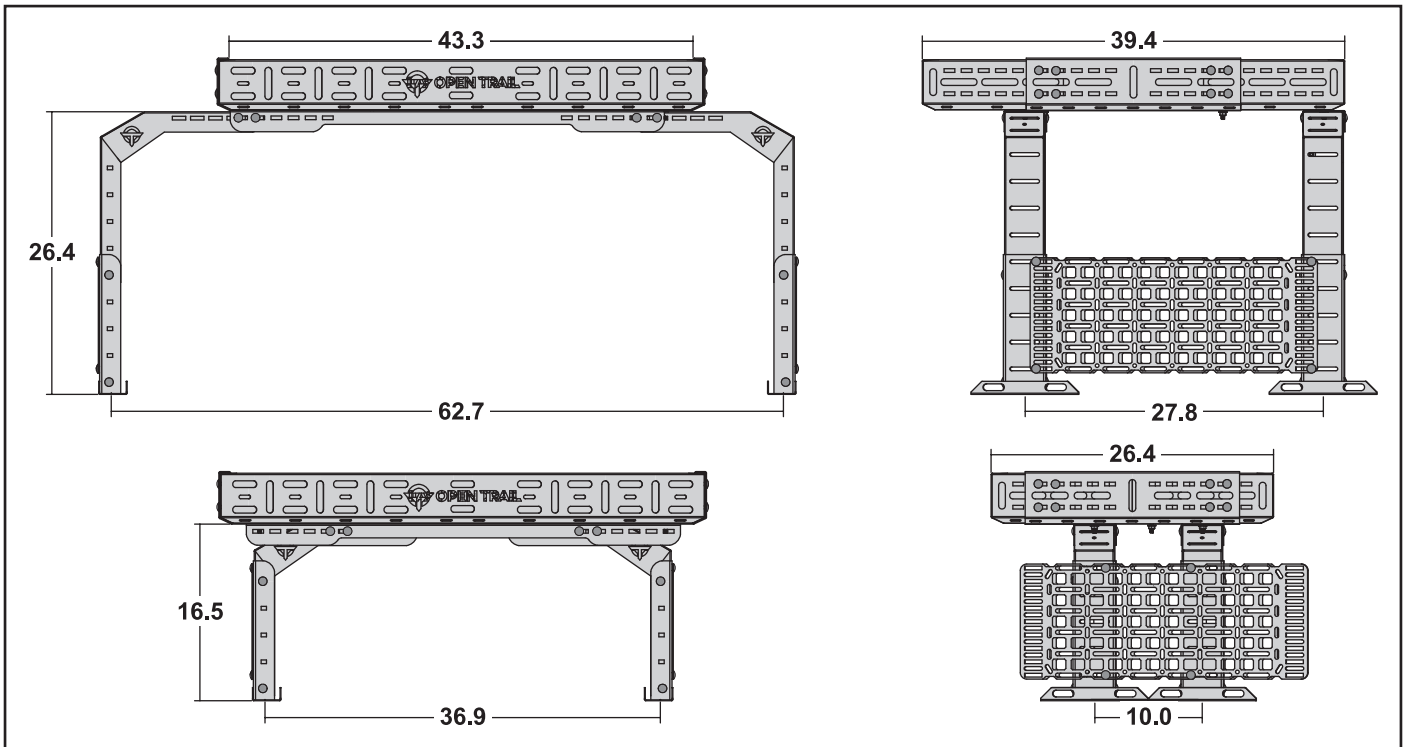

Figure 1. Minimum and maximum rack dimensions
1. Using a tape measure, measure the width and height you would like for the assembled rack frame (figure 1).